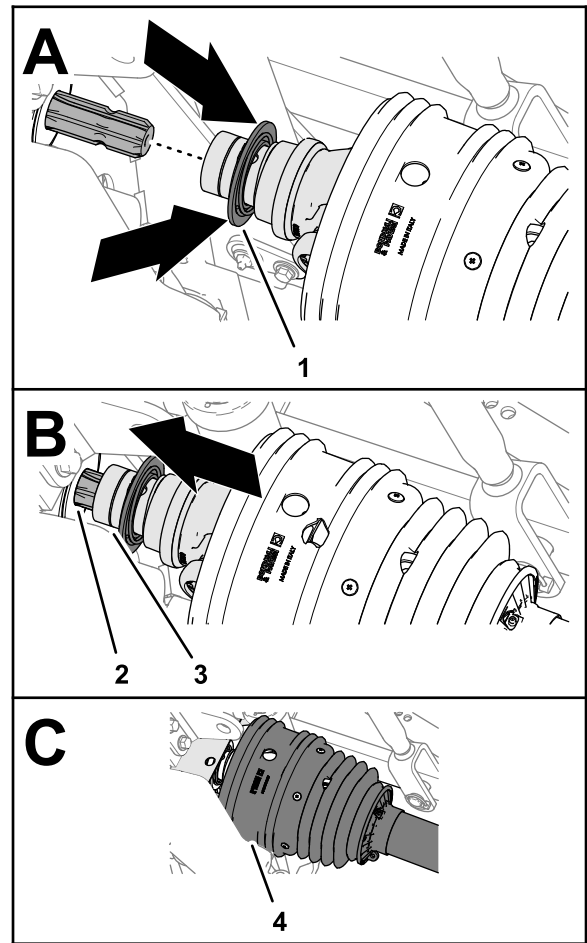

Figure 31
2. Pull back the lock collar of the quick-connect coupling (Figure 31).
3. While pulling back the lock collar, pull the PTO drive-shaft yoke forward and slip the socket of the coupling over the splines of the PTO output shaft (Figure 31).
5. Ensure that the shield is positioned over the drive shaft yoke (Figure 31).